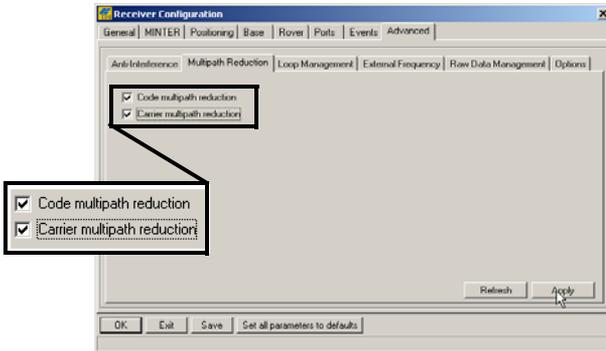

Figure 3-7. Configure Multipath Parameters
10. Click the **Advanced** tab, and then the **Multipath** tab. Set the following parameters, and click **Apply** (Figure 3-7).